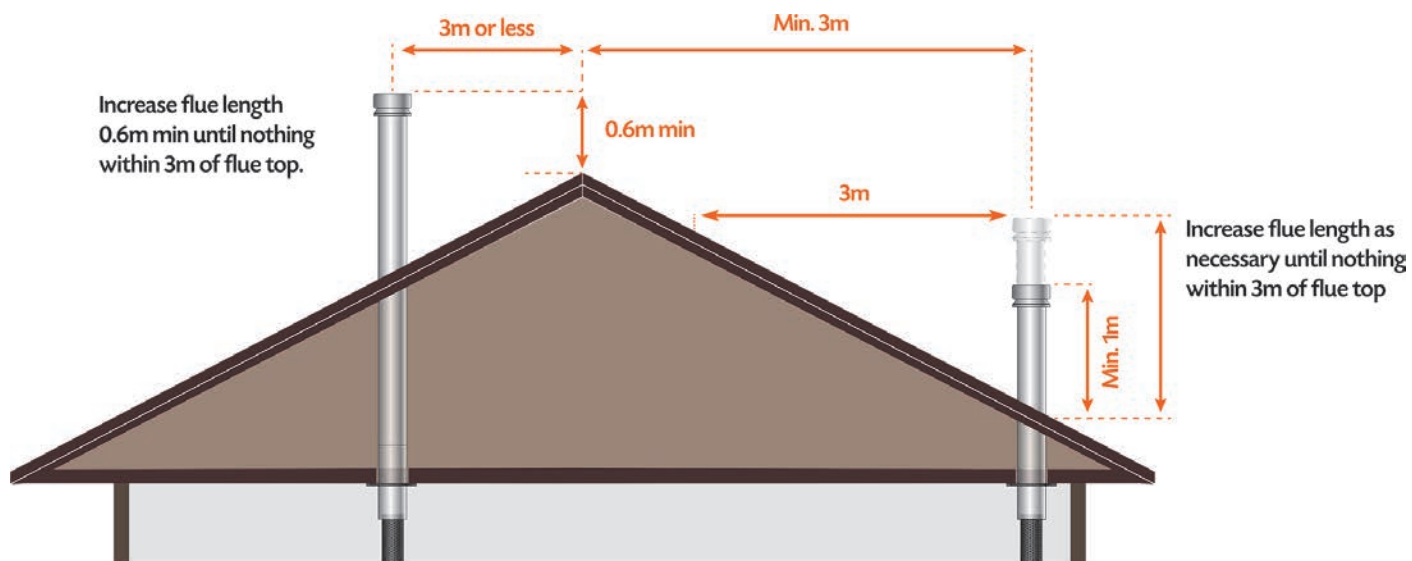

FIGURE 1
7. Add the remaining casings to the required height. Australian/New Zealand Standards state that "the flue pipe shall extend not less than 4.6m above the top of the floor protector". If the flue pipe is within 3 metres of the ridge, the flue pipe must protrude at least 600mm above the ridge of the roof. If the distance from the ridge is more than 3 metres, the flue pipe must protrude at least 1000mm above roof penetration. Additional lengths of casing and flue may be required to achieve this. The flue pipe must be more than 6 metres from any nearby structure. Other clearances may be applicable, it is up to the installer to ensure compliance with all regulations. **See Figure 1 and 2 on P7.**